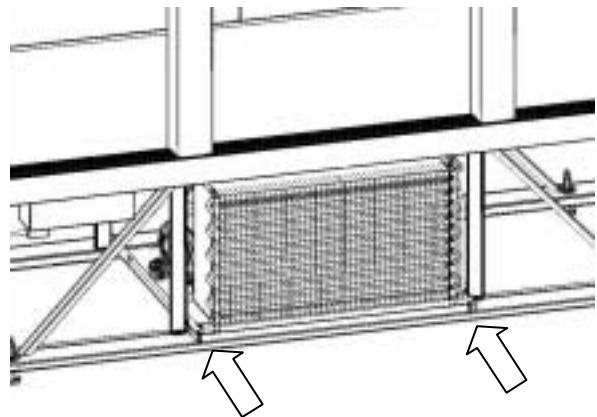

FIGURE 9 – RELEASE COND. UNIT BASE
4. Remove the 2 hex-head screws that hold the condensing unit base to the cabinet main rails. (See figure 9)